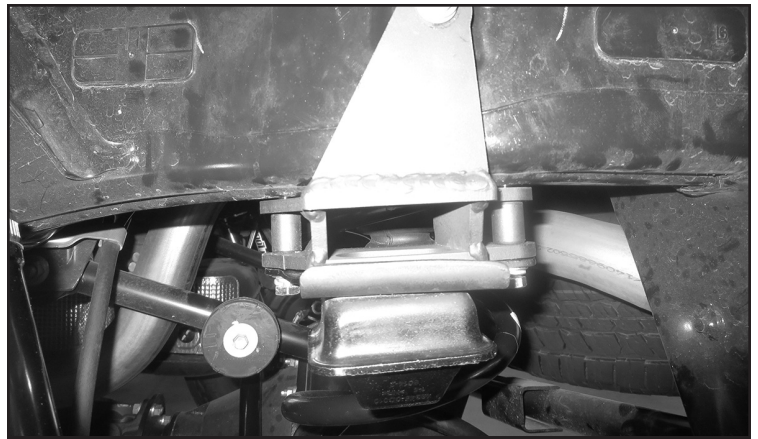

FIGURE 9 - STEP 9
9. Install the factory bumpstop to the new bracket using the supplied 8mm bolts and washers. Torque to 18 ft-lbs. **SEE FIGURE 9**